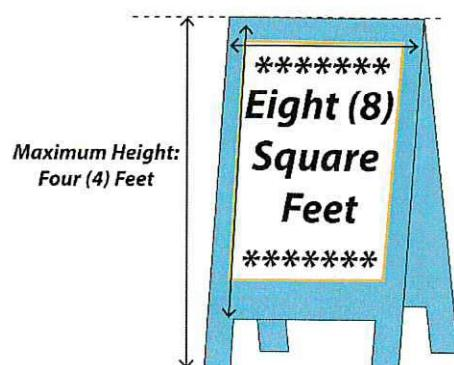

Figure 7
- a. The sign shall not exceed four feet in height and eight square feet in size (*See Figure 7*).